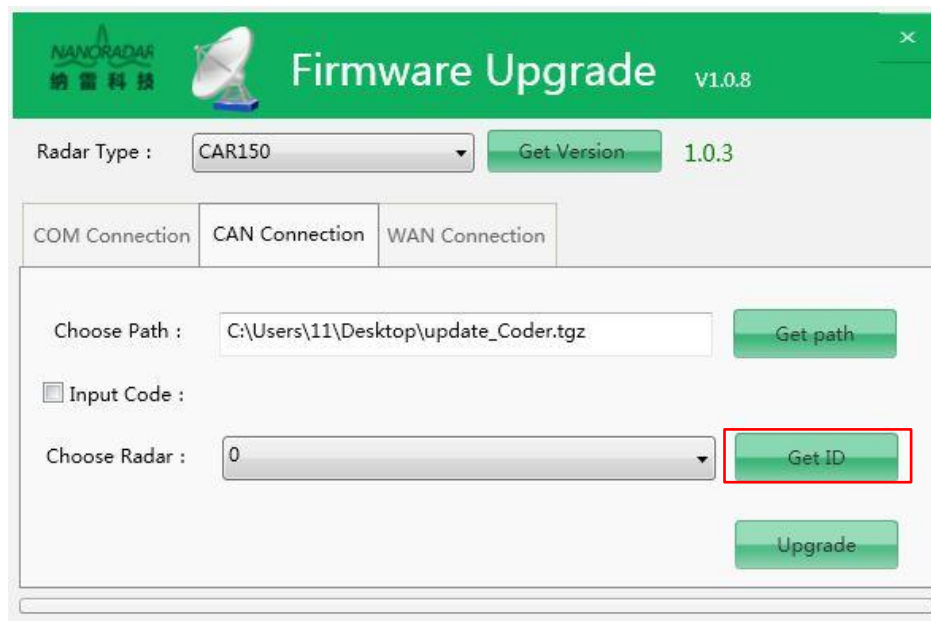

Figure 22 Get ID need to upgrade
d) Click on the "Get ID" button, select the ID which radar need to upgrade, because one CAN Bus can mount multiple radars , as figure22,select ID 0 radar to upgrade.